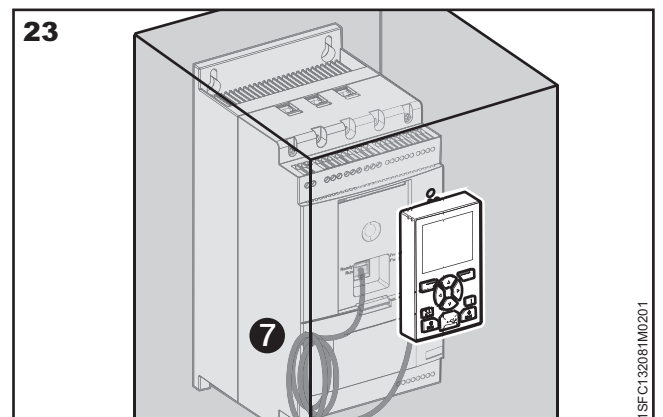

Figure 23: Roll the rest of the hanging cable
5. Make sure that the network cable is properly inserted into both ports. Roll the rest of the hanging cable so it will not get clamped by the door, see ⑦ in **Figure 23**. Close the door of the enclosure and switch on the operational voltage to control that the external HMI is working.